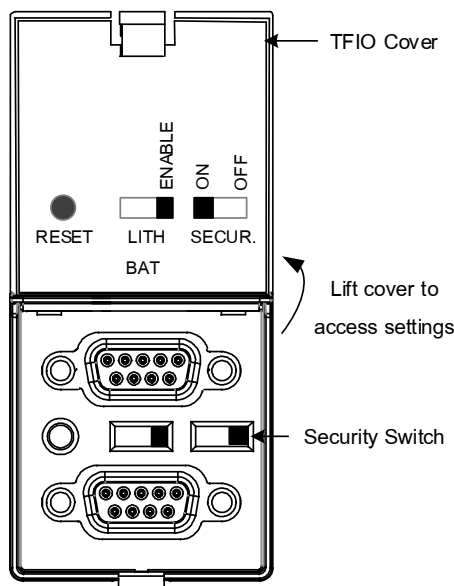

Figure 31: Security switch
1. Ensure that the security switch is set to OFF. The switch is located between the TFIO A and TFIO B connections on the RMC (Figure 31).
3. Verify that the Security Switch status field is off (Figure 31). The security codes cannot be entered if the status is on.